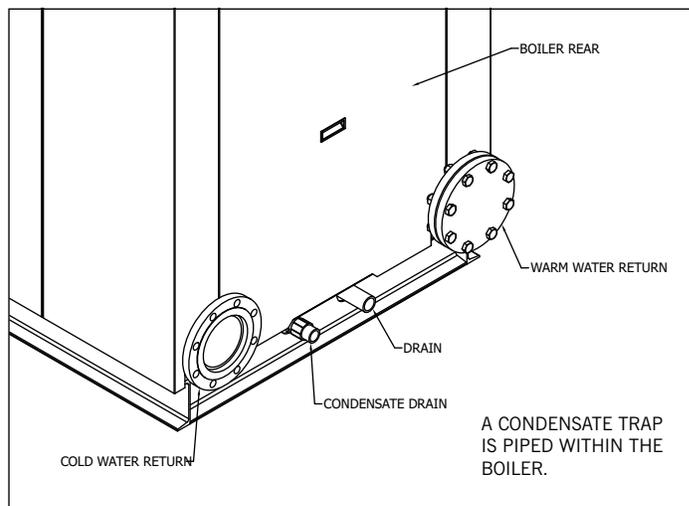

Figure 2-10 Condensate Piped Direct to Drain
(1) Condensate direct to drain - The condensate is piped directly to a drain through the piping and water trap supplied during installation (see **Figure 2-10**). Piping is to be a minimum of 1-1/4" NPT.
(2) Condensate to treatment tank - The condensate is held in a condensate tank near the boiler. The condensate is neutralized as it passes through the granular bed. The neutralized condensate is then piped to the drain.